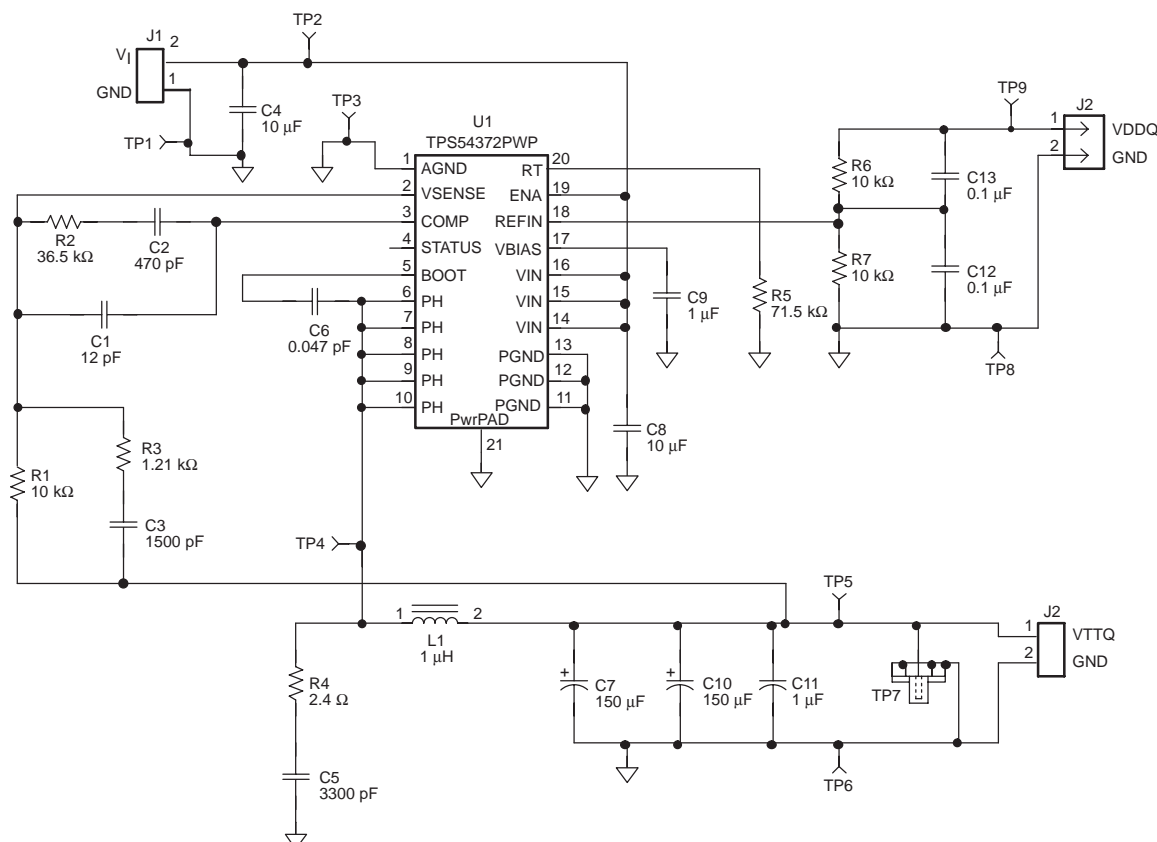

Figure 8. Application Circuit
(1) Specified by design
(2) Static resistive loads only
(3) Specified by the circuit used in Figure 8.
⁽³⁾ Specified by the circuit used in Figure 8.
Figure 8 shows the schematic diagram for a typical TPS54372 application. The TPS54372 (U1) can provide up to 3 A of output current at a nominal output voltage of